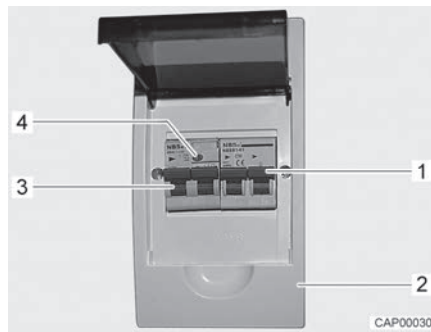

Fig. 106 230 V fuse box with safety cut-out and RCD (main switch)
- Switch off the RCD (main switch, Fig. 106,3) in the fuse box (Fig. 106,2).
- Switch on the RCD (main switch, Fig. 106,3) in the fuse box.
- When the vehicle is connected to the 230 V supply, press the test button (Fig. 106,4) of the RCD (Fig. 106,3) in the fuse box (Fig. 106,2). The RCD must trip.
- Switch the RCD (Fig. 106,3) back on.